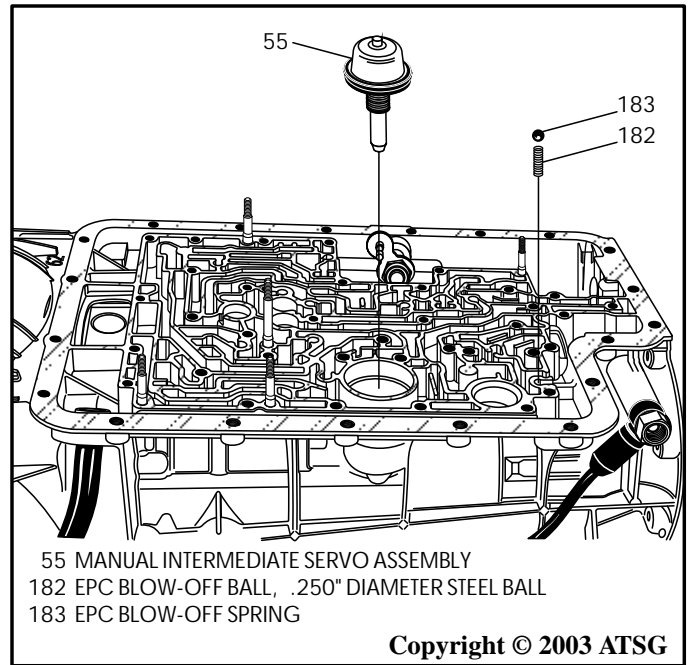

Figure 189
3. Install the manual intermediate servo piston, as shown in Figure 189, and ensure engagement with the target area on manual band.